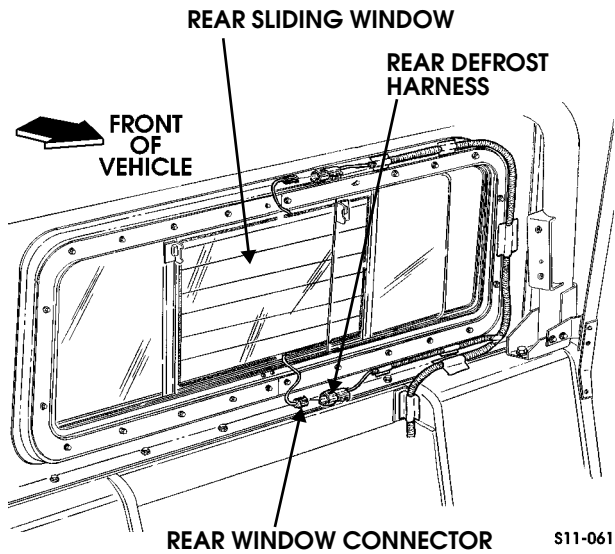

Figure 13-89: Four Passenger Vehicle with Sliding Windows
10. Remove tape securing rear defrost harness around rear window and disconnect two harness connectors from rear window connectors (Figures 13-89 and 13-90).
1. Tape rear defrost harness around rear window and connect two harness connectors to rear window connectors (Figures 13-89 and 13-90).